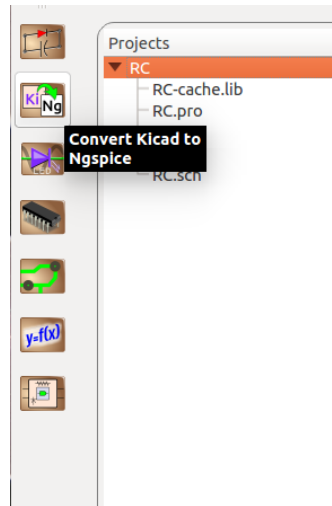

Figure 9.9: Convert KiCad to Ngspice Icon
- Convert KiCad to Ngspice: To convert KiCad netlist of RC circuit to NgSpice compatible netlist click on KiCad to Ngspice icon as shown in Fig. 9.9.